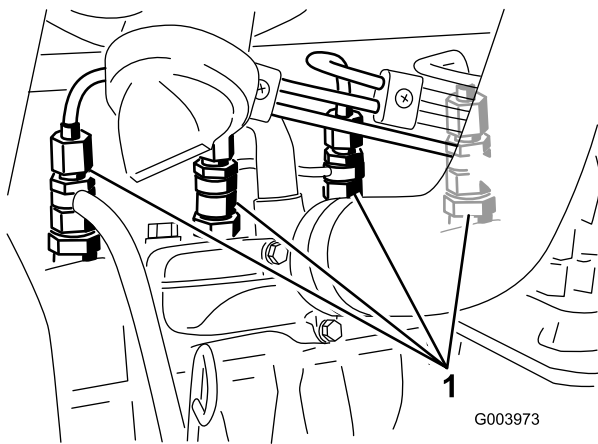

Figure 56
1. Loosen the pipe connection to the #1 nozzle and holder assembly (Figure 56).